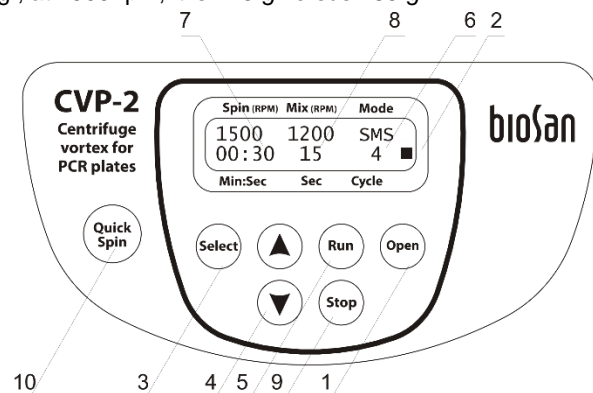

Figure 2. Front panel
- 5.3 Press the **Open** key (fig. 2/1) and open the lid by lifting it upwards by hand (indication ■ will appear in the Mode bottom line, fig. 2/2). Lid will open only with rotor stopped.
- 5.7 **Quick centrifugation.** Press and hold the **QS** (fig. 2/10) button for quick sedimentation. Rotor picks up speed. The unit stops automatically when the **QS** button is released.
5.8.1 By pressing **Select** key (fig. 2/3) choose a parameter to change. Each pressing of the **Select** key consecutively activates parameters in operation cycle; currently active parameter is indicated by blinking.
5.8.2 Use ▼ and ▲ keys (fig. 2/4) for setting the corresponding values. Pressing a key for longer than 2 seconds will increase change rate.
- 5.13 Press **Run** key (fig. 2/5) to start operation.
- 5.14 Rotor will begin rotating and, on the display, indication ► (fig. 2/2), cycle countdown (fig. 2/6) and changing parameters of the current mode (fig. 2/7 and fig. 2/8).
- 5.15 Operation can be stopped before the set number of cycles elapses, if necessary, by pressing the **Stop** key (fig. 2/9).
- 5.16 Unit stops automatically after executing set number of cycles (blinking indication ■ on display, fig. 2/2) and the lid unlocks automatically. A sound signal is emitted after full stop of the rotor. Press **Stop** key (fig. 2/9) to stop the signal.